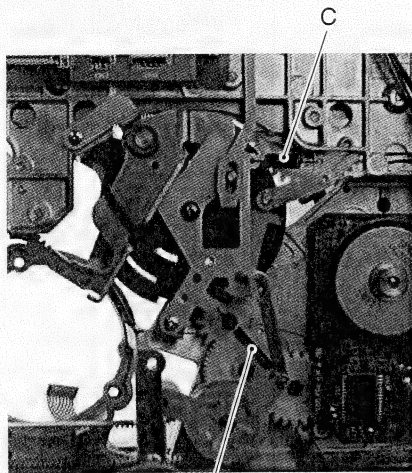

Fig. 2-7-64
7. Attach springs B and C (see Fig. 2-7-64).